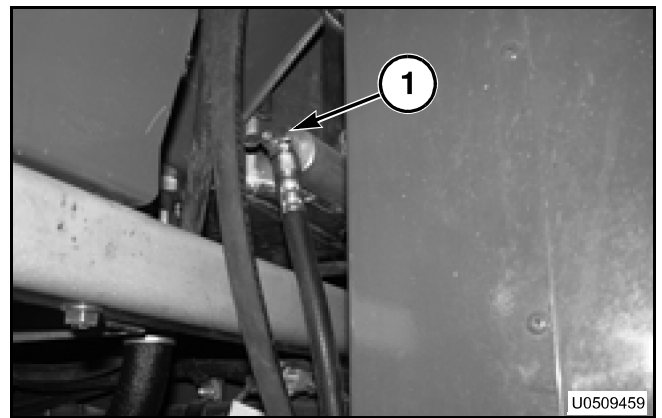

FIG. 120
FIG. 120: A drain valve (1), located on bottom front of the radiator, is provided to drain the engine block and radiator. For complete system draining open the heater control valve in the cab and valves on the heater hose inlet and outlet hoses at the engine.